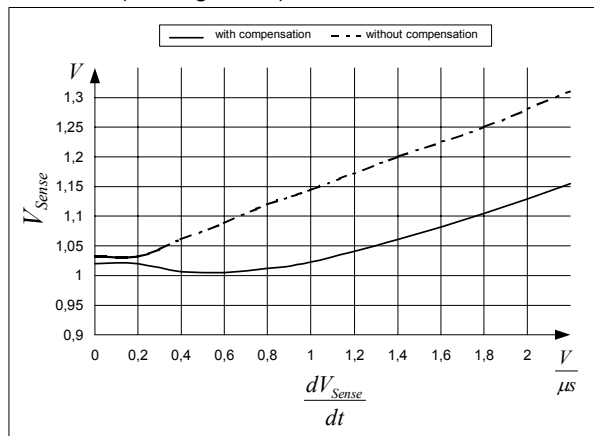

Figure 13 Overcurrent Shutdown
the overshoot dependency on di/dt of the rising primary current. That means the propagation delay time between exceeding the current sense threshold V_{csth} and the switch off of the external Power Switch is compensated over temperature within a wide range. Current Limiting is now possible in a very accurate way (see Figure 13).
E.g. $I_{peak} = 0.5A$ with $R_{Sense} = 2$. Without Propagation Delay Compensation the current sense threshold is set to a static voltage level $V_{csth} = 1V$. A current ramp of $di/dt = 0.4A/\mu s$, that means $dV_{Sense}/dt = 0.8V/\mu s$, and a propagation delay time of i.e. $t_{propagation\ Delay} = 180ns$ leads then to an I_{peak} overshoot of 12%. By means of propagation delay compensation the overshoot is only about 2% (see Figure 13).